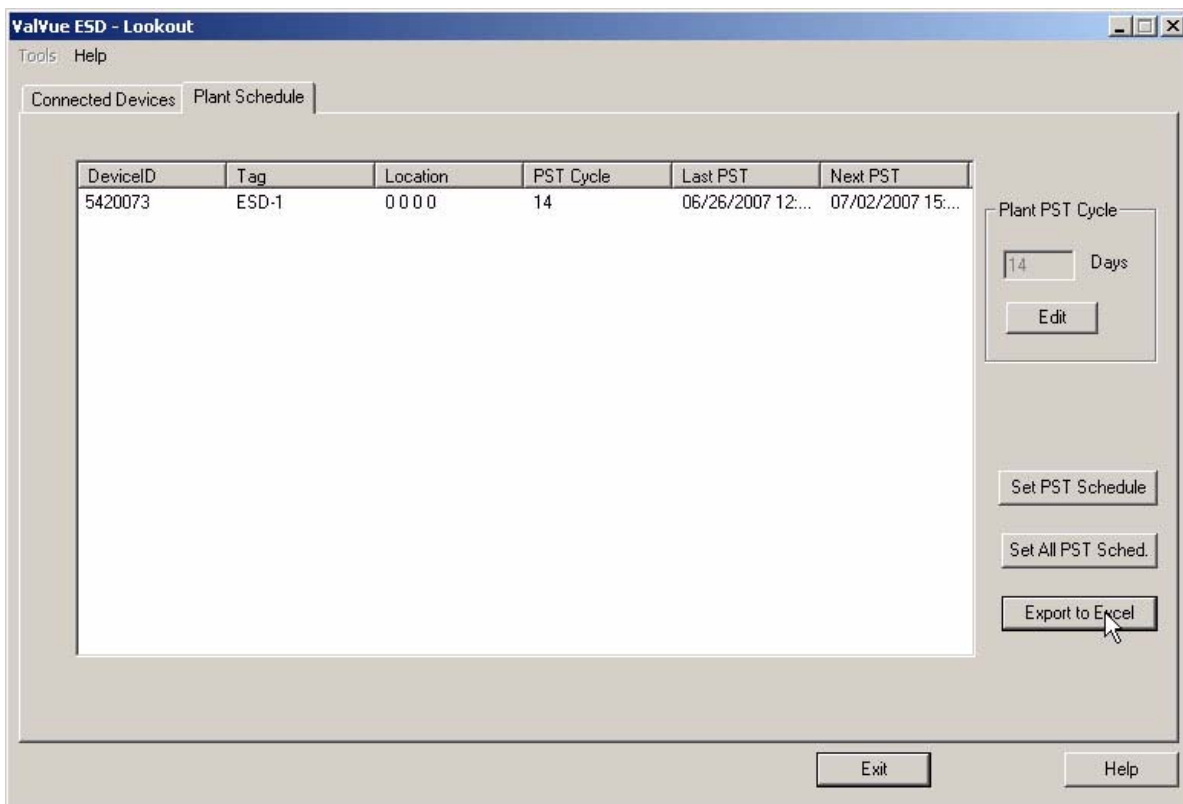

Figure 22 Selecting "Export to Excel"
1. Click on "Export to Excel" as shown in Figure 22 below.